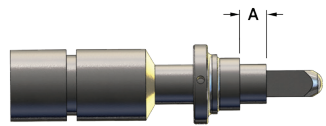

Figure No. 7
3. Slide drive collar large end first over stub shaft until it will not slide any further. For BP441 and 641 models, position collar and set dimension 'A' to 1.65". (See figure no. 7)